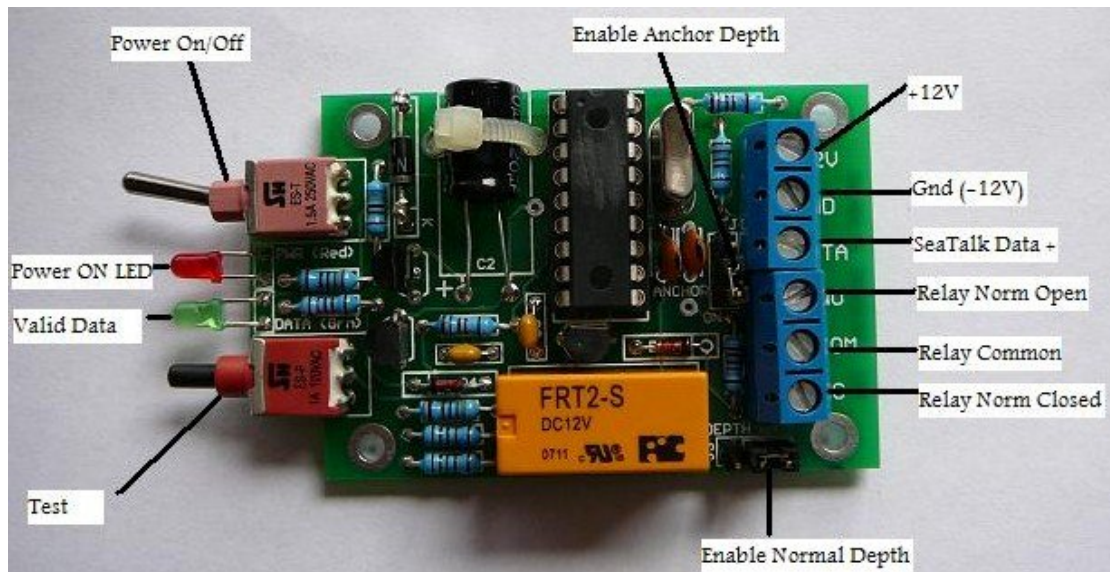

Fig 1
**Output** – There are three screw terminals provided for the relay contacts, Common (C), Normally Open (NO) and Normally Closed (NC). +12V from the vessel’s domestic power is connected to the C terminal. One or more alarms/sirens are connected between the NO terminal and Gnd (-12V), (fig. 1). This allows alarm devices drawing up to 1Amp to be operated. +12V for the alarms should be fed separately from the ship’s power, not taken from the SeaTalk +12V supply.
Jumper either or both pairs of pins to select the alarms required (fig.1).